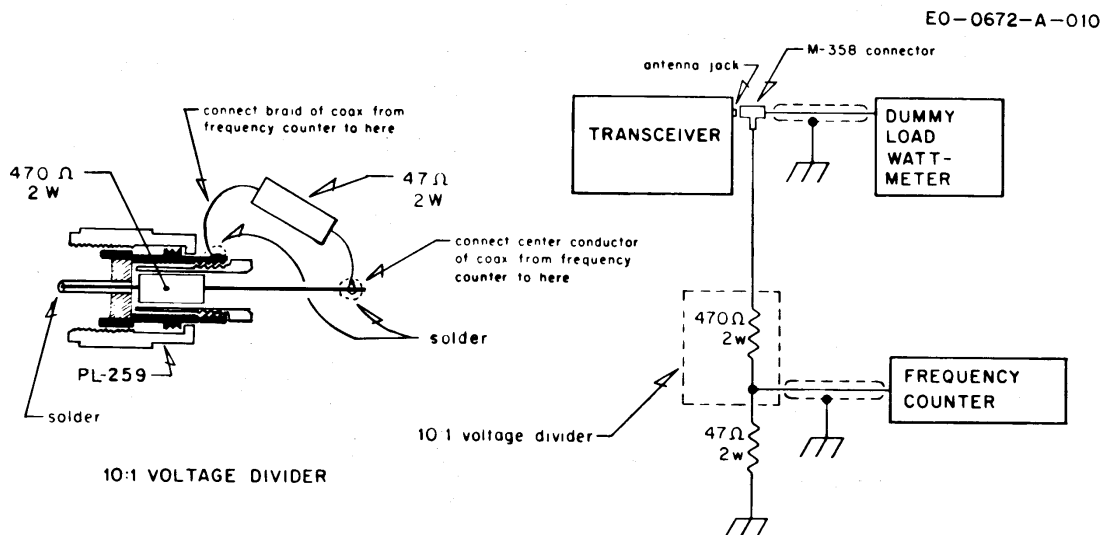

Figure 3-2
***NOTE:** See Figure 3-2 for connection of the frequency counter and the dummy load.